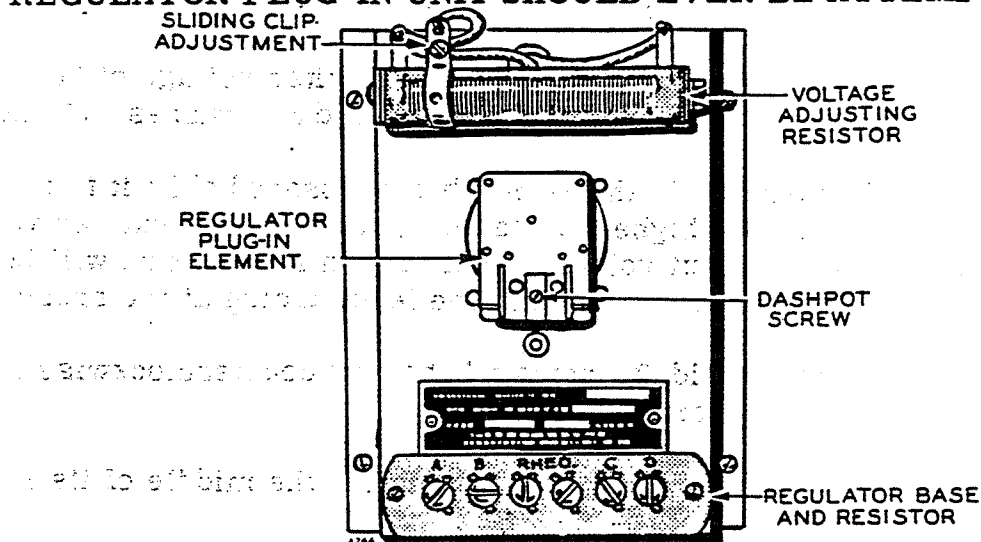

FIG. 21. REGOHM VOLTAGE REGULATOR ADJUSTMENT
6. Set the adjustable resistor, which is mounted either separately or on the regulator base (see Figure 21.), to obtain the rated ac voltage. Very little movement of the sliding clip will be necessary. Be sure to retighten the clip after the adjustment is completed.
REGOHM VOLTAGE REGULATOR DASHPOT ADJUSTMENT (Plants with rotating type exciter). - If a hunting voltage condition exists, after the Governor has been adjusted, the voltage regulator dashpot must be adjusted. See Figure 21. To adjust the voltage regulator dashpot, proceed as follows: